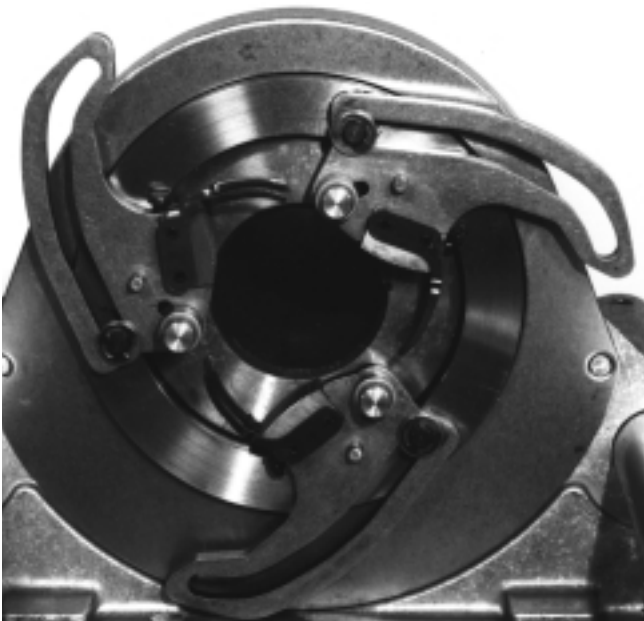
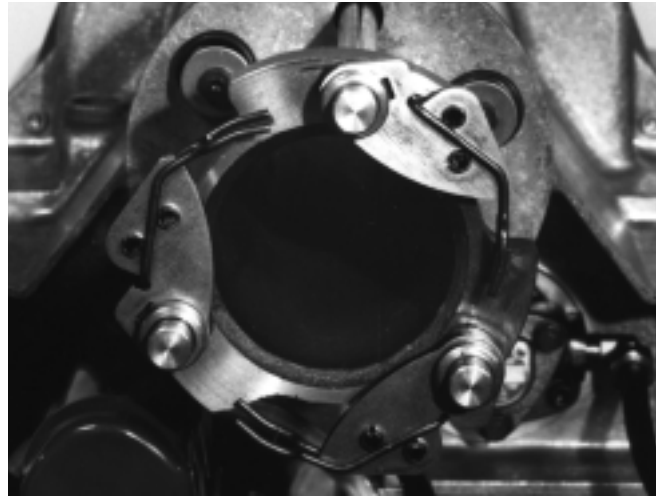

Figure 21 – Machine chucking system set up for let hand operation (e-clips and retainers removed for clarity)
Figure 24 – Reinstall Rear Jaws and Spacers on Rods
CAUTION Both front and rear jaws must be in left hand mode as shown in *Figure 21*.
(*Figure 21*)
(Figure 21)
NOTE! Before reinstalling machine covers make sure both front and rear jaws are in the same operating mode. (See Figure 21 for L.H. set up or Figure 24 if returning to R.H. operation.)
5. Reinstall rear jaws and spacers on rods. (Refer to Figure 24.) Locate square pin in jaw slot.